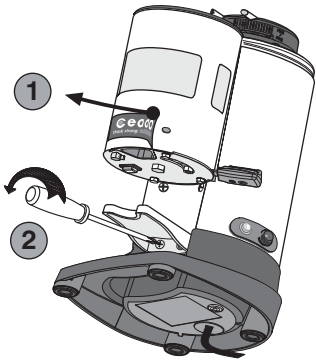

Fig. 9
- 1 Remove the Ceado sticker from the doser (1, Fig. 9) and remove the support fork, undoing the retaining screws (2, Fig. 9). Keep these screws in a safe place.